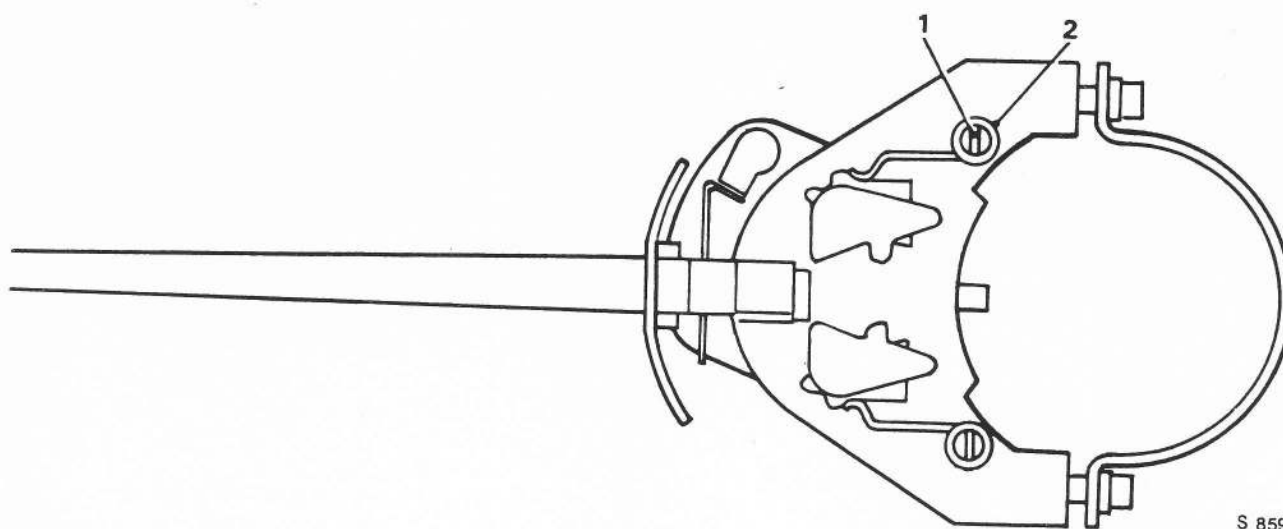

Figure 2. Modified component
2. Remove the two screws and discard the brown insulation board (see Fig. 1). Replace the screws with a washer (X 4401) behind each screw head (see Fig 2).